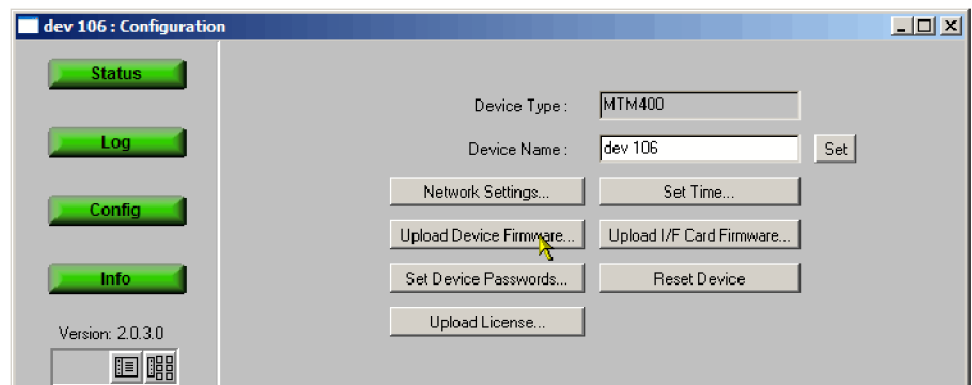

Figure 8: Device Configuration view (RUI v2.6.1 and below)
3. In the Device view, click **Config** to display the Device Configuration view. (See Figure 8.)
3. In the Device view, click **Config** to display the Device Configuration view. (See Figure 8 on page 21.)